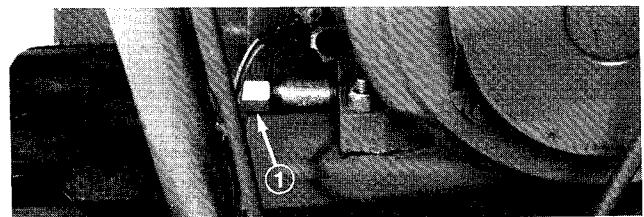

Figure 25
3. Clean area around oil drain cap. Next, slide oil drain pan below drain extension; then remove oil drain cap (Fig. 25).